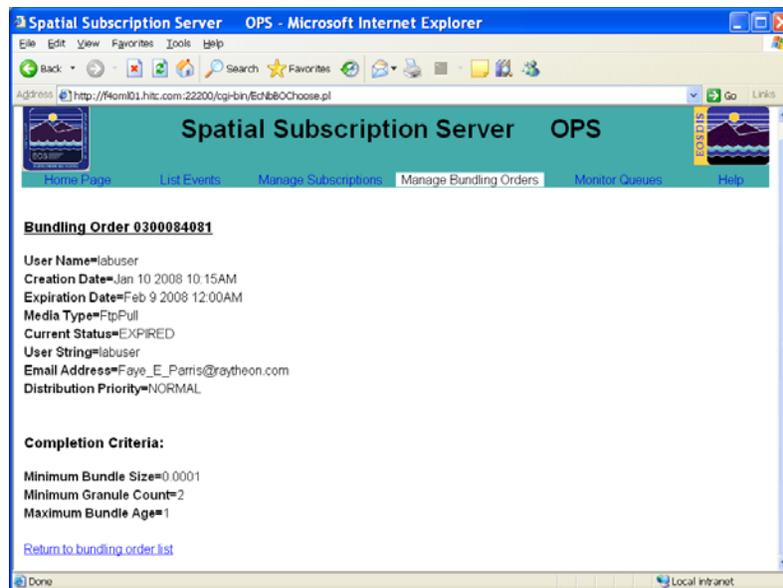

Figure 16.1-12. Manage Bundling Orders Page (Part 2)
- 9 Observe information displayed on the **View Bundling Order** page (see Figure 16.1-12).